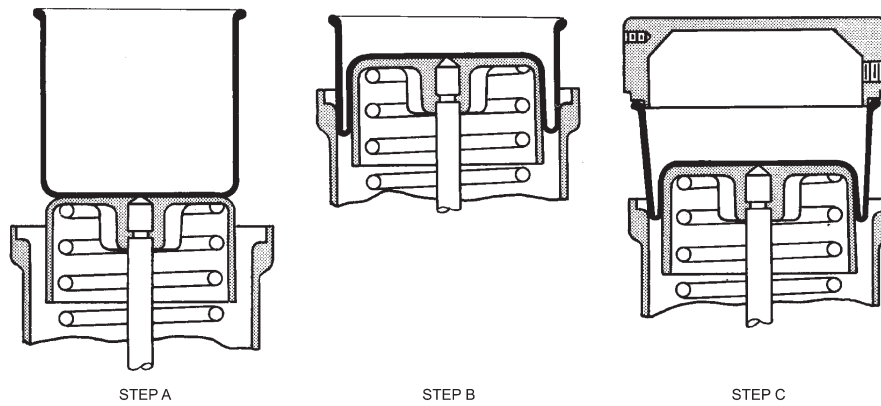

Figure 7 - Method 1
- I-1. Center and adhere diaphragm (40) to the top of the piston (43) (see Figure 7-Method 1, Step A).
- J-1. Roll the diaphragm (40) inside the spring barrel (38) until the diaphragm is partially engaged in the spring barrel (see Figure 7-Method 1, Step B).